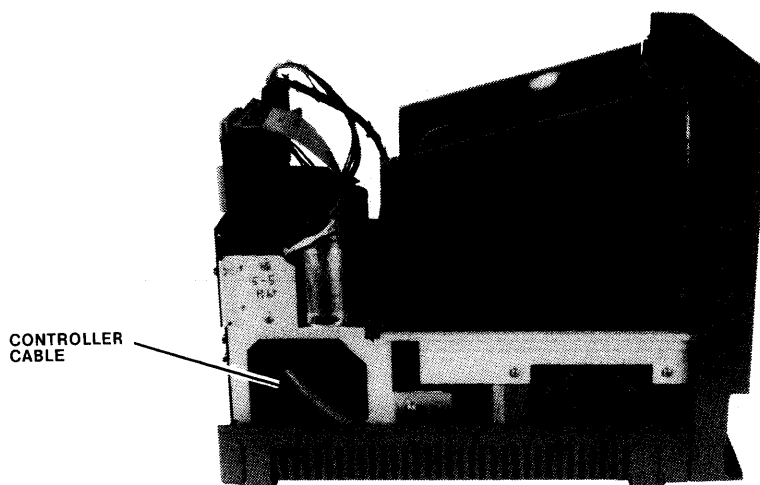

Figure 5-9. Double Density Diskette Controller (DDDC) Cable Routing
- g. Route controller cable along side of chassis as shown in figure 5-9. Make certain there is ample cable slack to allow hooded connector to be attached to front edge of controller interface board when installed in cardcage.